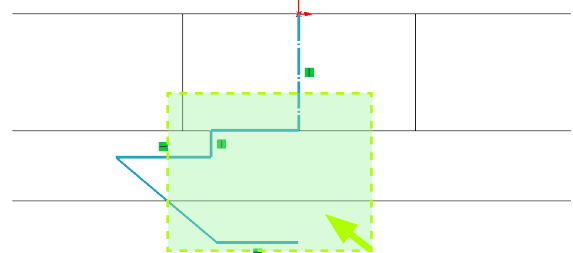

Fig. 60
Step 8. Drag a selection to **select all**, Fig. 60.
Step 10. Click **Smart Dimension** (S) on the Sketch toolbar.